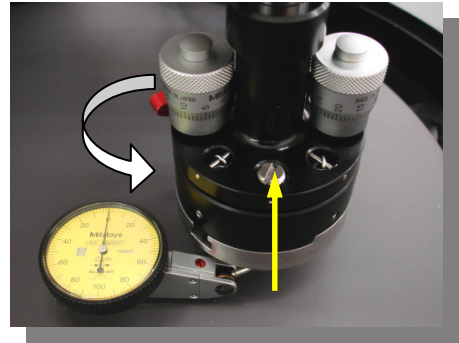

Figure 24: The indicator tip is aligned directly under the micro-hub pivot pin
- 2) Manually position the indicator tip to about a 25° forward angle, and secure the indicator to the platen using double sided adhesive tape so the indicator tip is facing the micro-hub assembly. Rotate the indicator bezel so the "0" is rear-facing (Figure 24).
- 4) Activate sample rotation and stop when the pivot pin is over the contact point of the indicator tip (Figure 24).
- 10) Activate full rotation until the fixed pivot pin is located over the tip of the dial indicator (Figure 24).